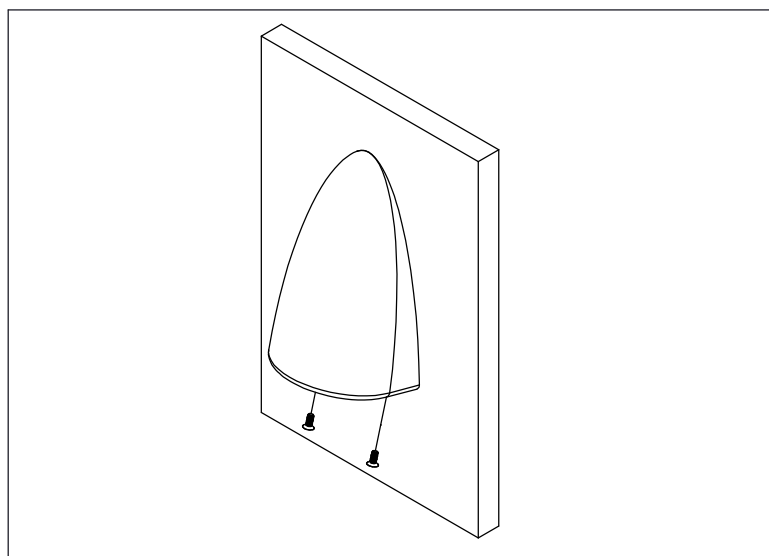

Figure 4
4. Fasten Housing to Back Plate with Housing Screws. Use pick caulk around top and sides of Housing. Do not use pick caulk along bottom (Fig. 4)